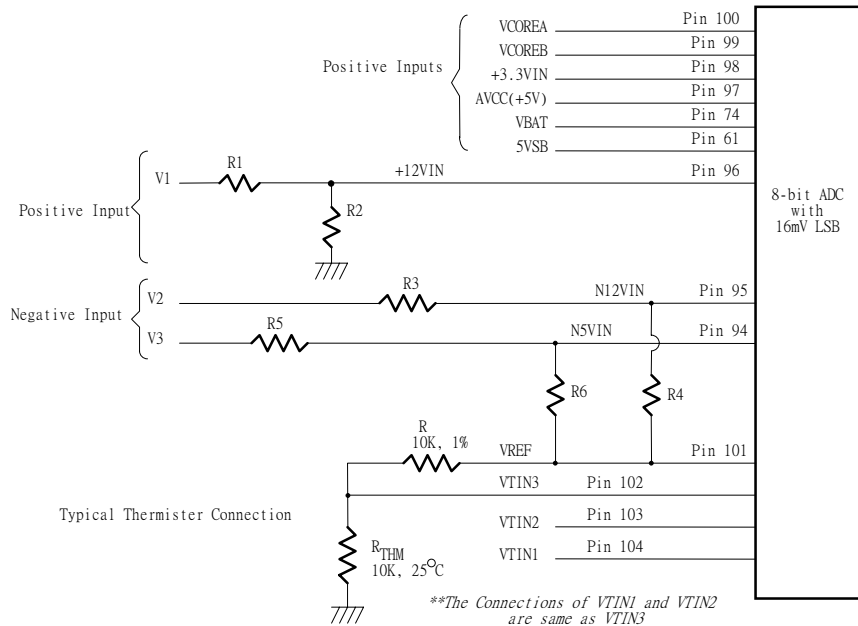

Figure. 9.2
The maximum input voltage of the analog pin is 4.096V because the 8-bit ADC has a 16mV LSB. Really, the application of the PC monitoring would most often be connected to power suppliers. The CPU V-core voltage ,+3.3V ,battery and 5VSB voltage can directly connected to these analog inputs. The +12V,-12V and -5V voltage inputs should be reduced a factor with external resistors so as to obtain the input range. As Figure 9.2 shows.
The negative voltage should be connected two series resistors and a positive voltage VREF (is equal to 3.6V). In the Figure 9.2, the voltage V2 and V3 are two negative voltage which they are -12V and -5V respectively. The voltage V2 is connected to two serial resistors then is connected to another terminal VREF which is positive voltage. So as that the voltage node N12VIN can be obtain a posedge voltage if the scales of the two serial resirtors are carefully selected. It is recommended from Winbond that the scale of two serial resistors are R3=232K ohms and R4=56K ohm. The input voltage of node N12VIN can be calculated by following equation.
The W83697HF can connect three thermistors to measure three different envirmnt temperature. The specification of thermistor should be considered to (1) β value is 3435K, (2) resistor value is 10K ohms at 25°C. In the Figure 9.2, the themistor is connected by a serial resistor with 10K Ohms, then connect to VREF (Pin 101).